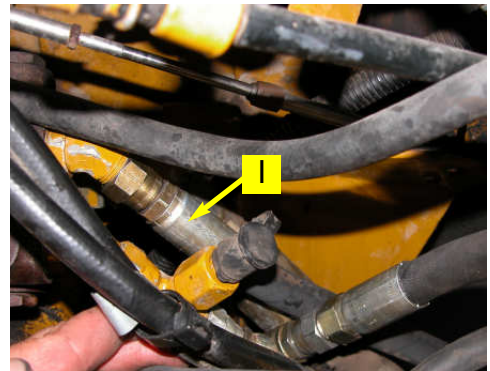

Figure 4b. Connected pressure hose at priority divider.
- c. Route the pressure hose (**I**) from the **P** port of the Automated Steering Block behind the hood frame and to the excess flow port on the priority divider. (Figure 4b.)